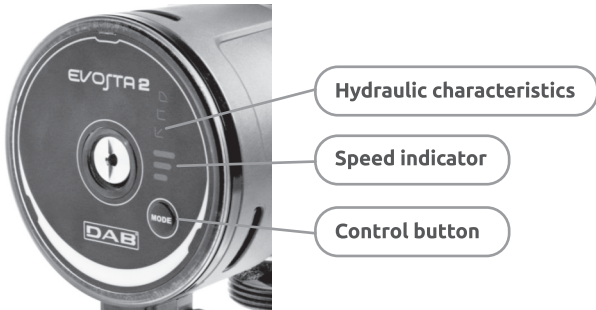

Figure 7(b) – DAB EVOSTA2Z pump control panel.
5.2.18 The boiler is equipped with a frequency circulation pump DAB EVOSTA2 65/130 OEM (1/2") The setting of the circulation pump EVOSTA 2 is done with only one button located on the back of the stator housing. The pump has 3 modes of operation and 9 hydraulic characteristics, switching between them is done using MODE buttons. The selected operating mode is displayed using 3 light indicators (Figure 7(b)).